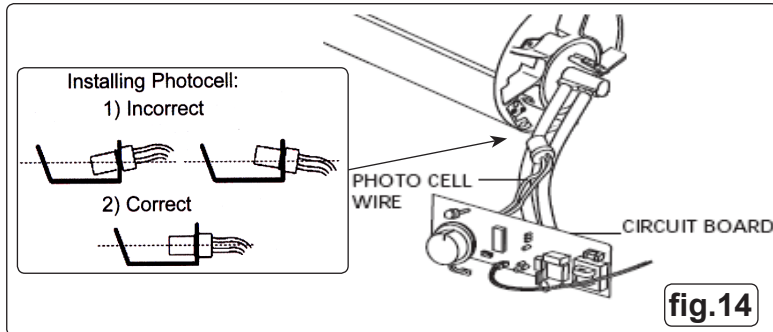

fig.14
- 6.7. Flame-out device.** The AB heaters are fitted with a flame-out device (a photocell, see fig.14), which cuts the fuel supply should the flame be inadvertently extinguished, or if the unit overheats. If this happens, switch off the heater and unplug from the mains supply. Check the heater to determine the fault. In particular check that the air intake is not obstructed and that the internal fan is rotating freely. Wait a few minutes and restart the unit. If the problem persists contact your local Sealey Service Agent.